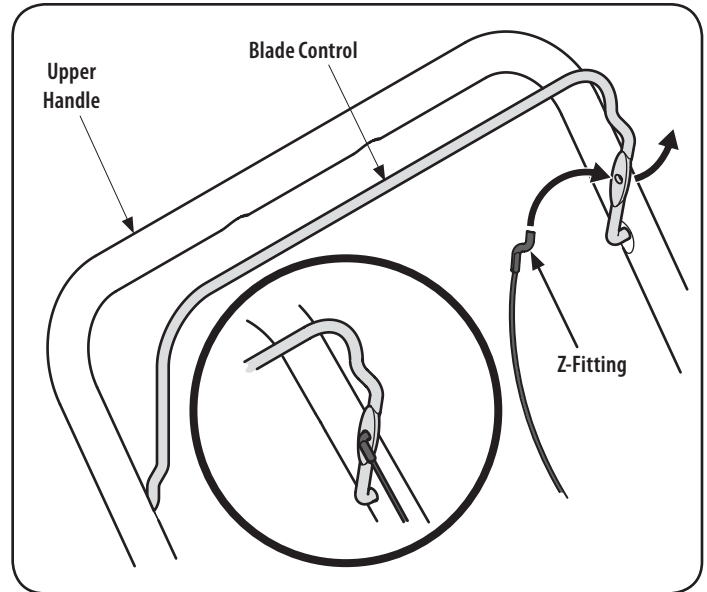

Figure 2
1. Hook the Z end of the brake cable into the control from the outside to inside. See Figure 2.